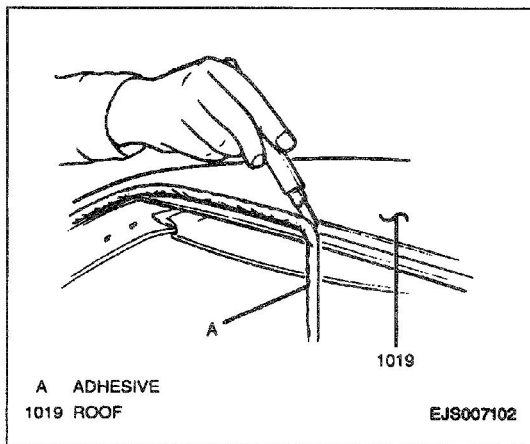

Figure 8—Trimming Old Adhesive
14. Using a knife cleaned with alcohol or petroleum distillate (to remove any dirt or oil), trim remaining adhesive to a uniform thickness (Figure 8).